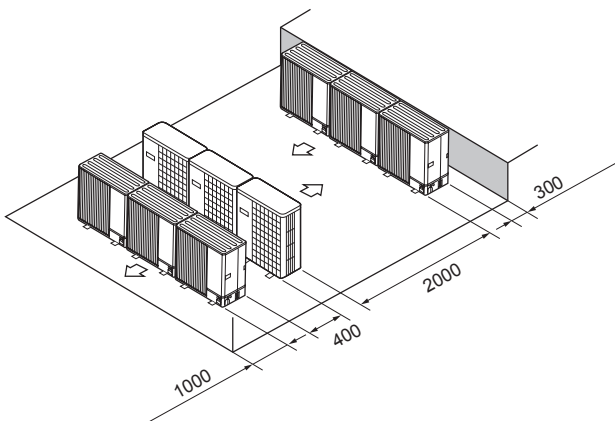

Fig. 4-35
- ⑥ Multiple parallel unit arrangement (Fig. 4-35)